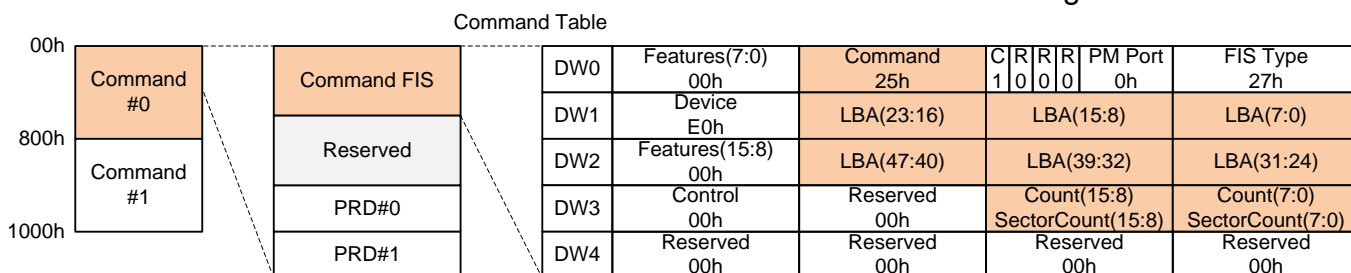

Figure 3-12 Set Command FIS for Read DMA Ext Command
- 2) Follow Step 2) – 8) of Write DMA Ext Command to prepare command/data and send the command. 5-Dword Command FIS for Read DMA Ext is shown in Figure 3-12.